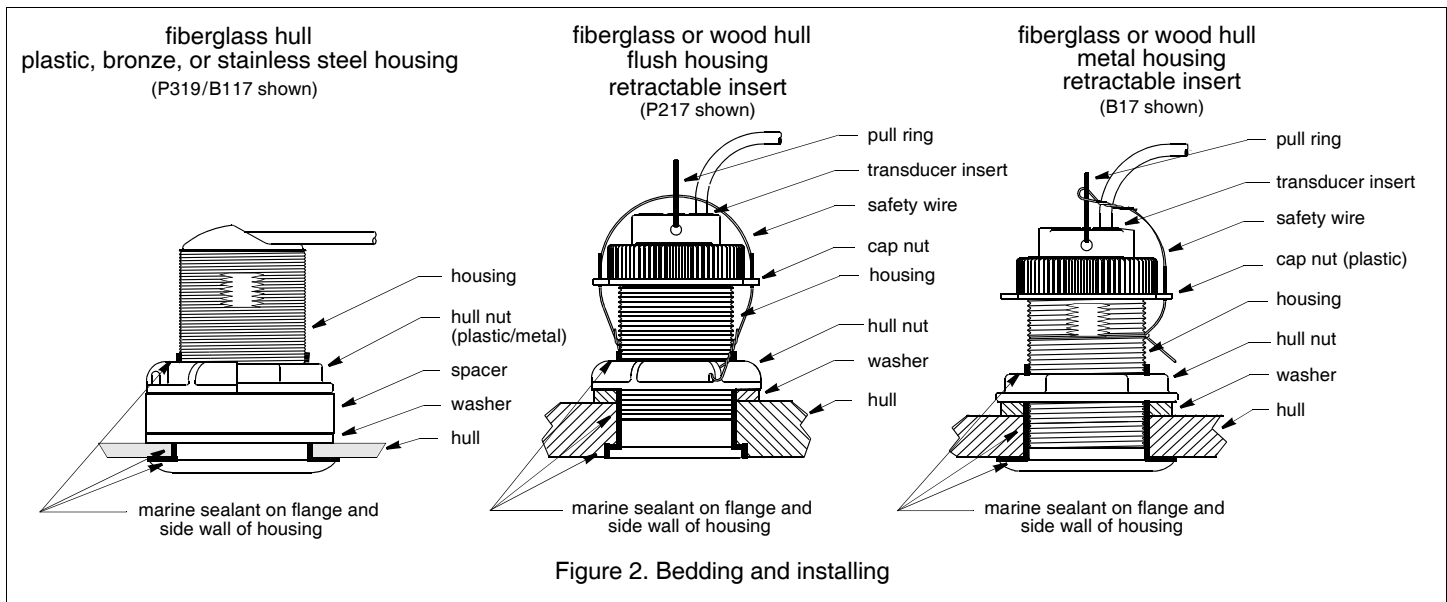

Figure 2. Bedding and installing
Apply a 2mm (1/16") thick layer of marine sealant around the flange of the housing that will contact the hull and up the sidewall of the housing (see Figure 2). The sealant must extend 6mm (1/4") higher than the combined thickness of the hull, washer, any spacer, and the hull nut. This will ensure there is sealant in the threads to seal the hull and to hold the hull nut securely in place.
2. From inside the hull, slide the washer onto the housing (see Figure 2).
3. Attach the safety wire to prevent the insert from backing out in the unlikely event that the cap nut fails or is screwed on incorrectly (see Figure 2 or 3).
- Remove the transducer insert from the housing by removing the safety wire and unscrewing the cap nut (see Figure 2).